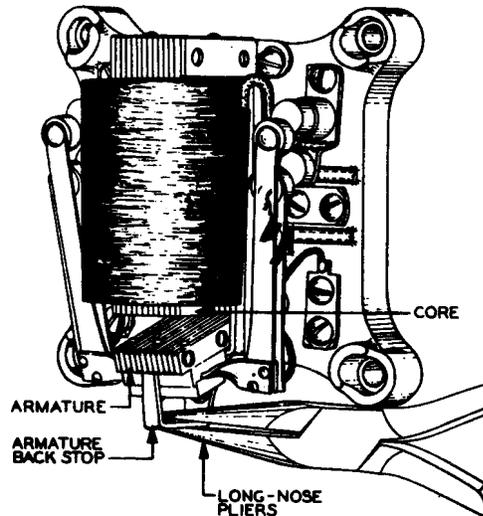

Fig. 10 - Method of Adjusting Armature Backstop - Using Long-nose Pliers
(1) If a gauge of conducting material is used, the contacts must be dead while checking gap. Contact gaps and armature air gaps of relays of the type shown in Fig. 10 are corrected by adjusting the armature backstop with the long-nose pliers.